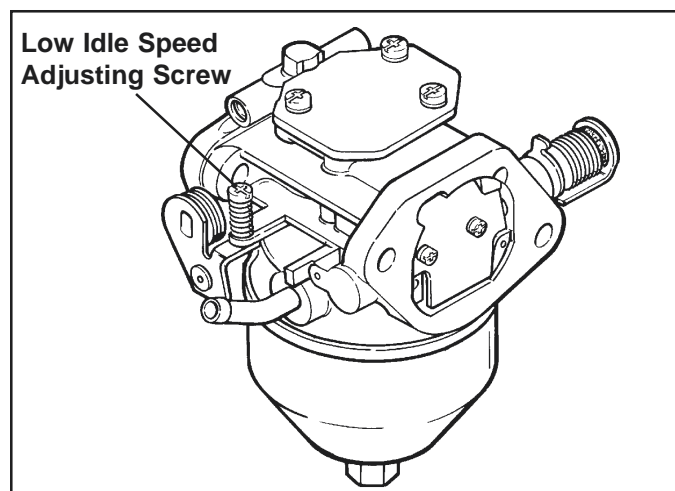

Figure 6.
3. Using a tachometer, check the RPM. Then using a screwdriver, turn the low idle speed adjusting screw **in** or **out** obtain a low idle speed of **1200 RPM (+75 RPM)**. See Figure 6. Check the speed again using a tachometer.